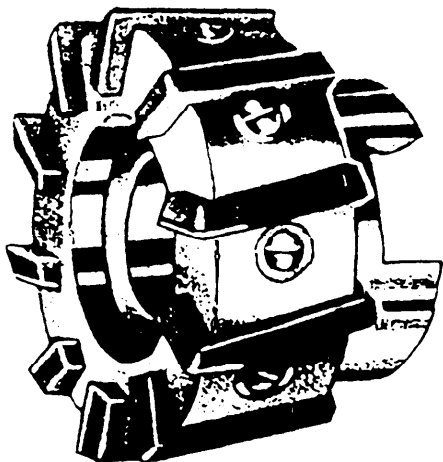

Figure 7-36.—Inserted tooth face milling cutter.
**FACE MILLING CUTTER.**—Inserted tooth face milling cutters (fig. 7-36) are similar to shell end mills in that they have teeth on the circumference and on the end. They are attached directly to the spindle nose and use inserted, replaceable teeth made of carbide or any alloy steel.